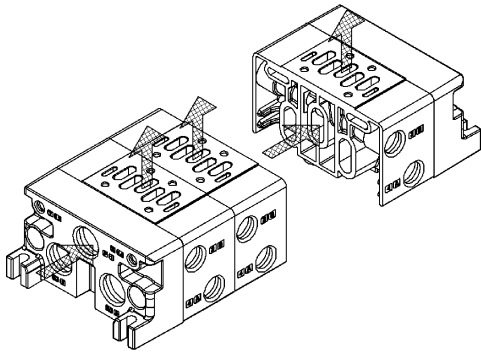

Figure 1
- 1) Compressed air supplied through P port of air manifold comes out to Supply port of each manifold block. (Figure 1)